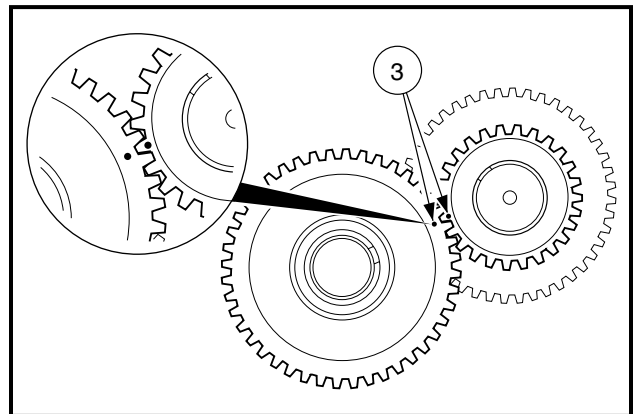

Figure 18-94 Align Timing Marks between Camshaft and Crankshaft
3. Align the timing marks (3) (Figure 18-94, Page 18-43). See following NOTE.